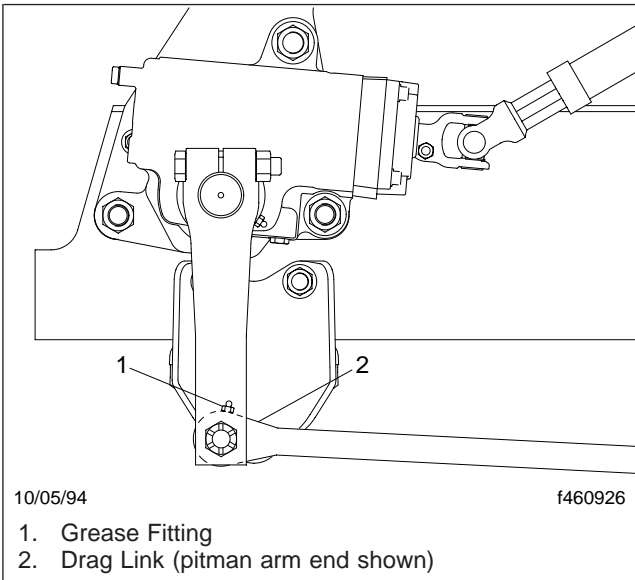

Fig. 2, Steering Drag Link Lubricating
1. Using a clean rag, wipe the dirt from both grease fittings on the drag link. See **Fig. 2**.